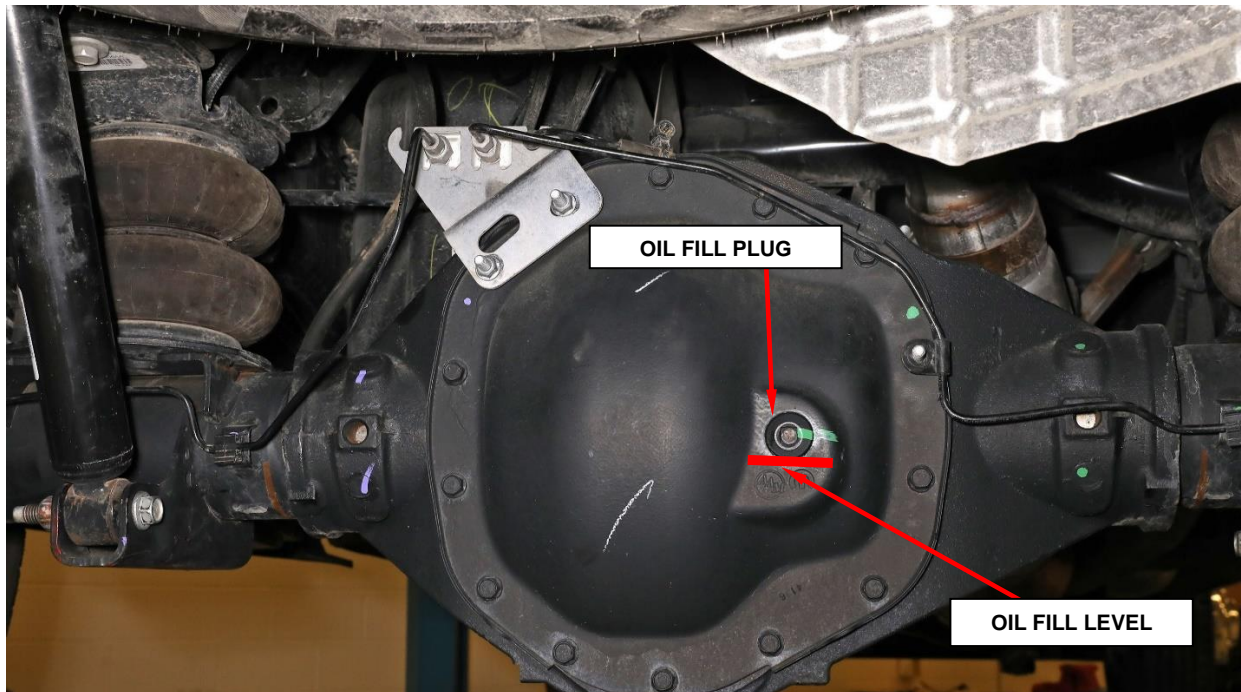

Figure 19 – Oil Fill Plug
37. Remove the rear differential oil fill plug (Figure 19).
38. Verify the oil level is within 0.25” of the fill plug, add as needed (Figure 19).